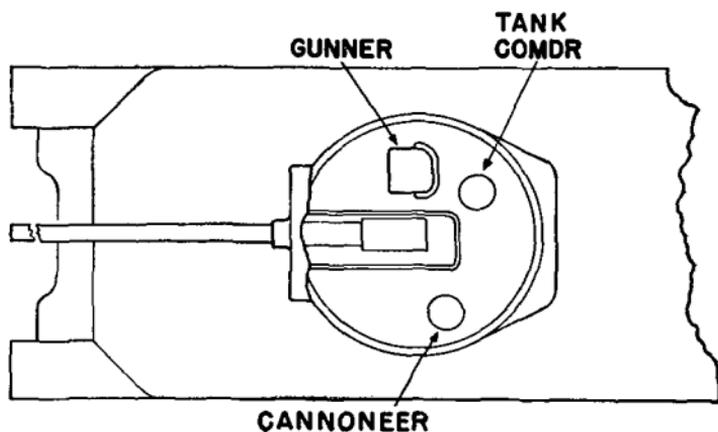

Figure 4. Gun crew, mounted posts.
16. **POSITIONS OF GUN CREW** (fig. 4). Positions of the gun crew are as prescribed in paragraph 4b.